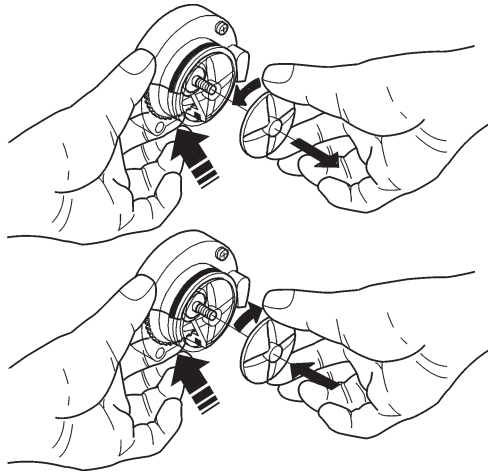

Fig. 30
- to disassemble the wheels, just use a finger (see fig. 30) to lock the disk mounted on the whipper motor shaft, then turn the wheels to unscrew them;